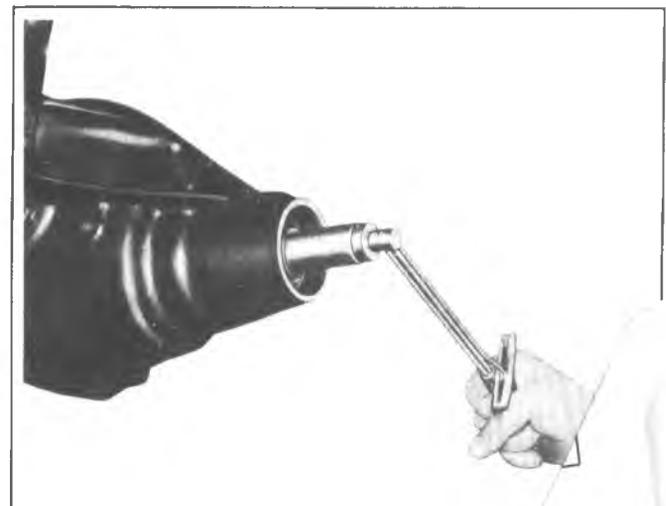

Fig. 19B—Measuring Rotating Torque
4. Hold the preload stud stationary with a wrench on the flats and tighten hex nut. Tighten until 20 in. lbs. of torque are required to rotate the bearings, as shown in figure 19B.